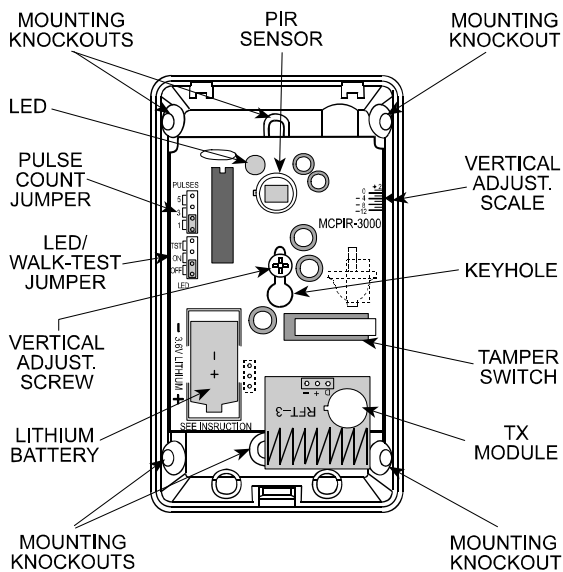

Figure 3. Components Layout
- Insert the battery into the battery clip - observe polarity (see Figure 3).
two diagonally opposite knockouts at the angled sides of the base (see Figure 3).